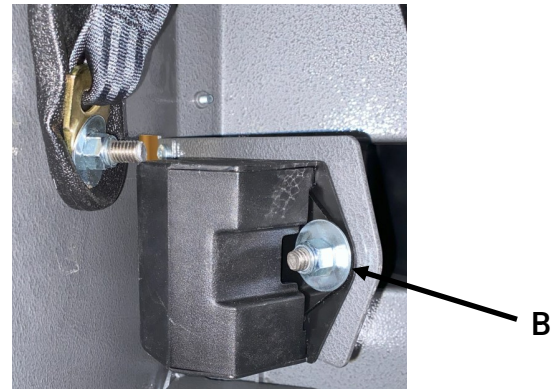

Figure 8
- B. Install Leg Restraint Retractor (RC1225) onto leg retractor bracket using 3/8-16 hardware removed in step IV A (Fig. 8).